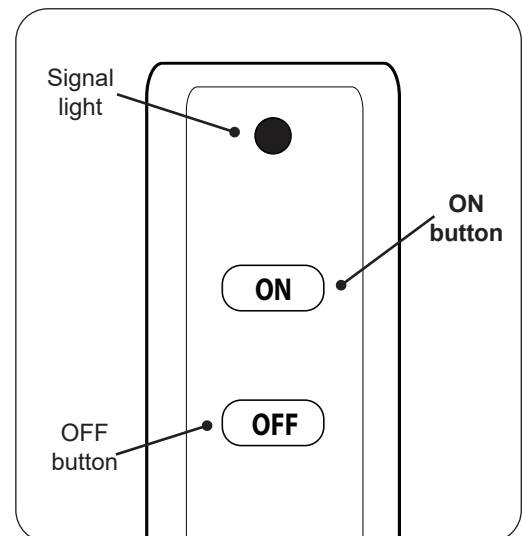

Fig. 39-2 Remote transmitter detail
2. Locate the remote transmitter and press the **ON** button (see Fig. 39-2). The ignition sequence will begin.